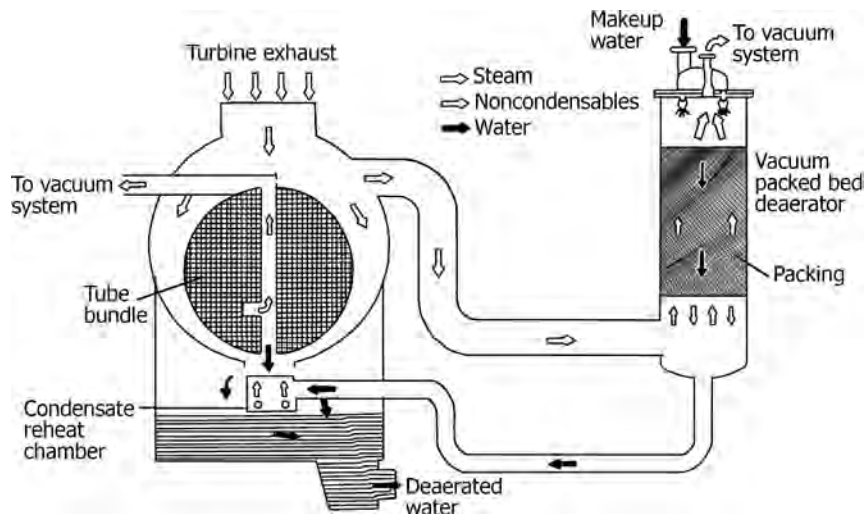

FIGURE 9.20 Condenser vacuum deaerator for power plant boiler.
- In the following illustration, Figure 9.20, oxygen removal from makeup water is accomplished by distributing the water over a packed bed in a vented column countercurrent to turbine exhaust steam drawn from the steam surface condenser that operates at the vacuum produced in the condenser.